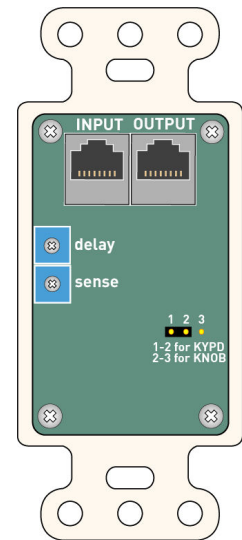
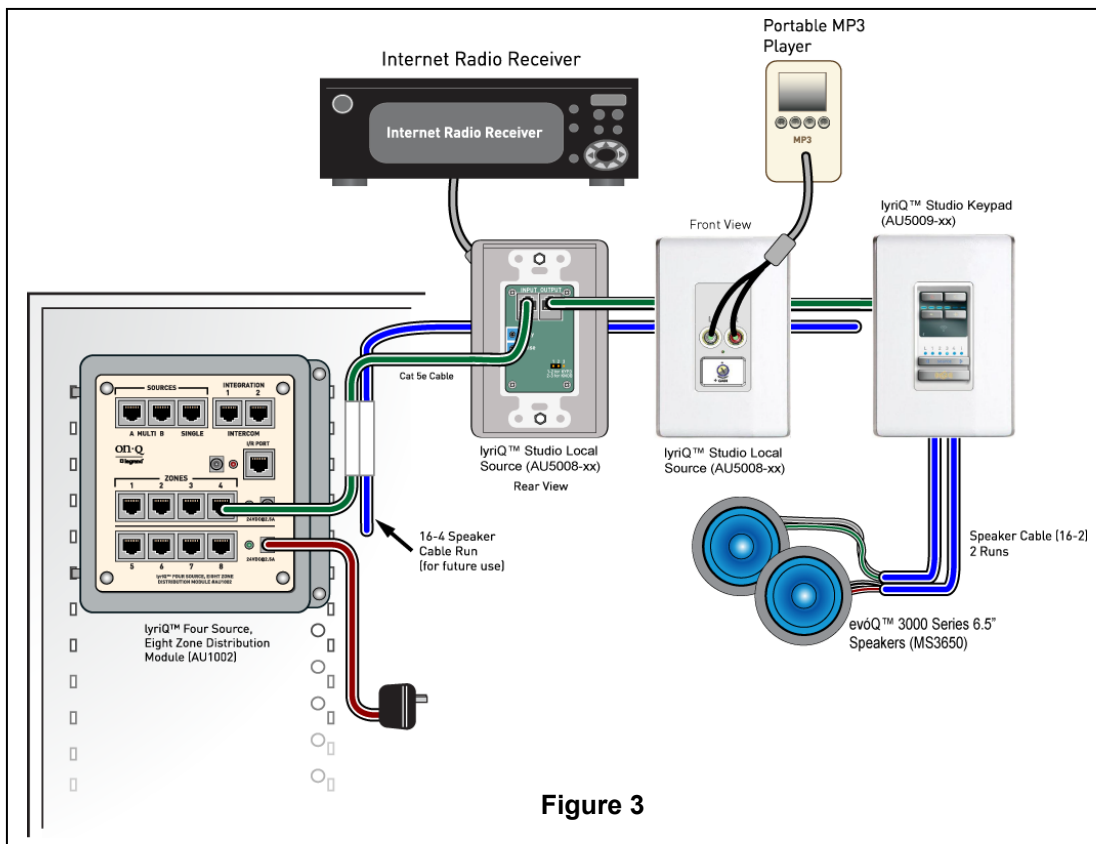

Figure 2
Figure 3
The lyriQ™ Studio Local Source Input allows the lyriQ™ Multi-Room Audio System to use “local” source inputs (up to 2 maximum) associated with any one volume control or audio zone. When used in conjunction with Studio Keypads, the lyriQ™ Studio Local Source Input can be chosen from the Keypad just as main sources are chosen. It is connected in series with the Keypad by simply connecting a run of Category 5 cable from a lyriQ™ Distribution Module zone to the “INPUT” RJ45 input jack on the rear of the Studio Local Source Input (see **Figure 2**), and connecting the “OUTPUT” RJ45 jack over Category 5 cable to the volume control. If two Local Sources are used, simply daisy-chain them OUTPUT to INPUT using the RJ45 jacks (see **Figure 3**). The Studio Local Source Input senses audio signals on its front side input RCA jacks. When a line level audio source is sensed (MP3 player, TV, or other), the local audio source can then be heard within the zone.
NOTE: If optional 16/4 speaker cable is run with the Category 5 cable for potential upgrade to high performance keypads in the future (see *Figure 3 and 4*), it can be run directly from the enclosure to the volume control.
1. At the intended Studio Local Source Input location, pull the prewired Category 5 cable from the lyriQ™ Audio Distribution Module out of the single gang box and terminate it with an RJ45 plug and snap it into the RJ45 jack labeled “INPUT” on the rear (see *Figure 2*).
Input) out of the single gang box and terminate it with an RJ45 plug and snap it into the RJ45 jack labeled "OUTPUT" on the rear (see **Figure 2**).